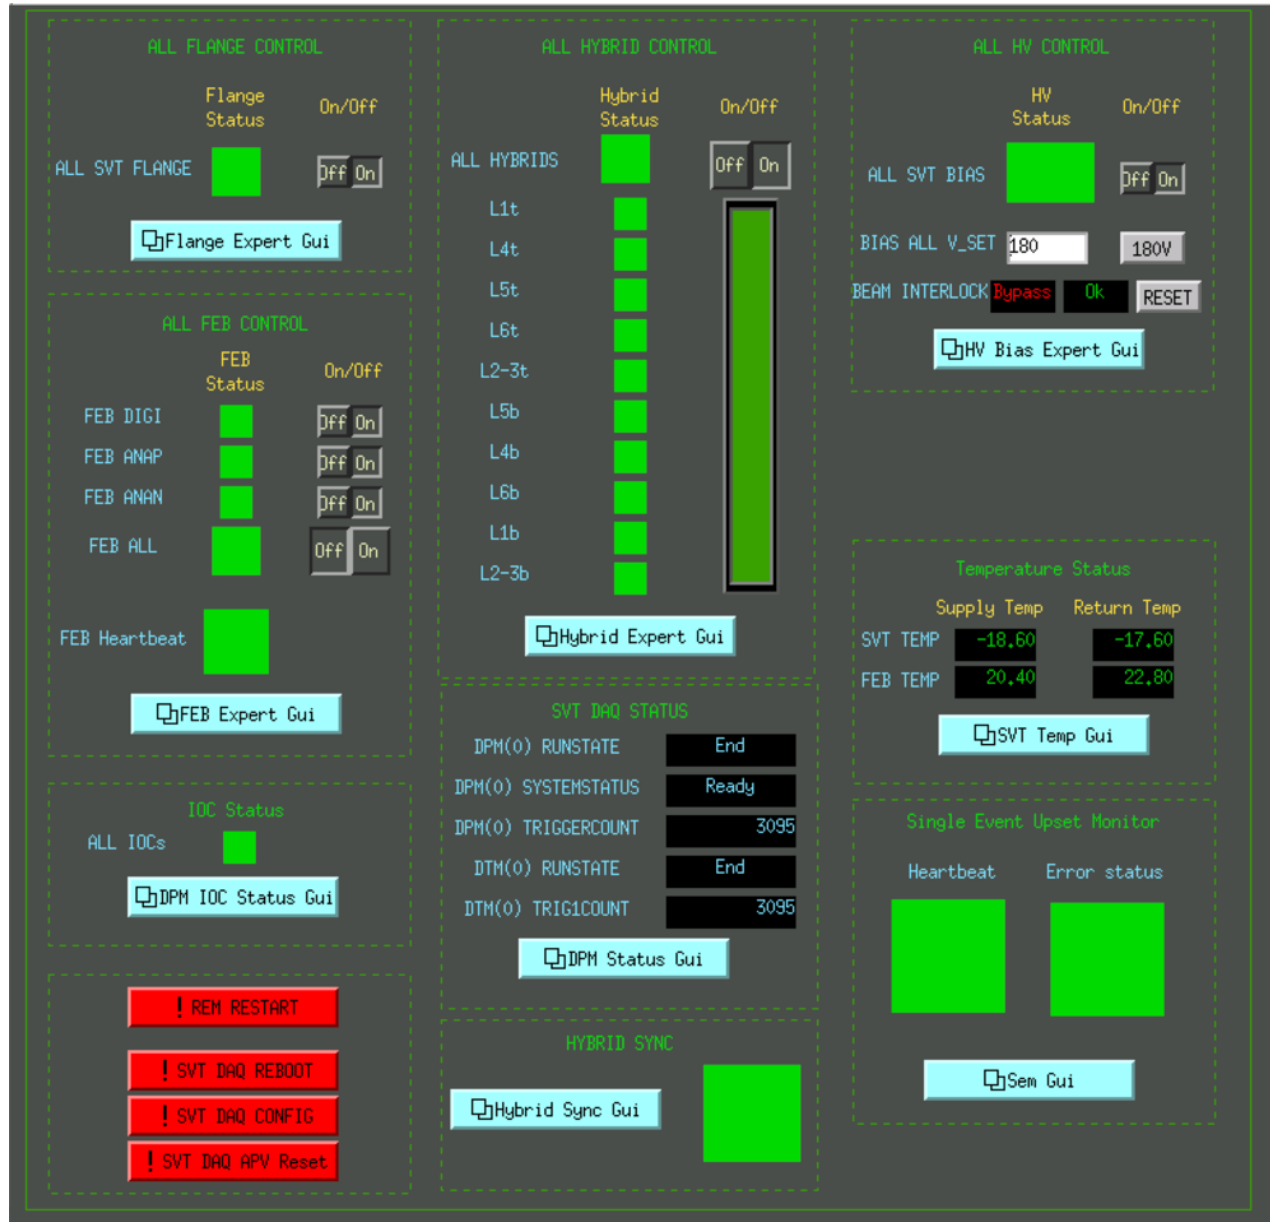

Figure 2: SVT summary GUI.
**For most of the steps below use the SVT summary GUI from Fig. 2 which can be started from the SVT sub-menu in the main EPICS control GUI.**